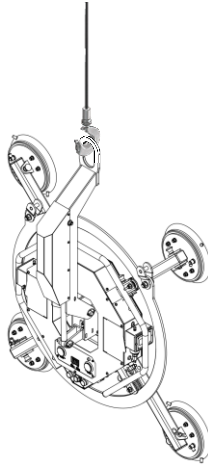

Figure 1.1
**Step 1:** Hook the Rotary Vacuum Lifter into a crane hook (Figure 1.1)